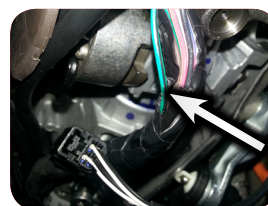

Fig. 1
- a. If you wish to retain the steering wheel control buttons you must hardwire them into the RP5-GM51. The wire you need to connect into can be found by removing the plastic panel located beneath the steering wheel column and accessing the bundle of wires which houses the Green / Black wire (Fig. 1). Once you have located the Green/Black wire in the vehicle you must connect the Green/Black wire coming from the vehicle side connections of the RP5 interface to this wire. This is a data signal so to ensure consistent operation please solder the wires together. DO NOT cut this wire in half. In some vehicles it may be necessary to remove the cover around the steering column and tag the wire in pin 9 at the Black 10-pin connector located at the base of the clock spring.